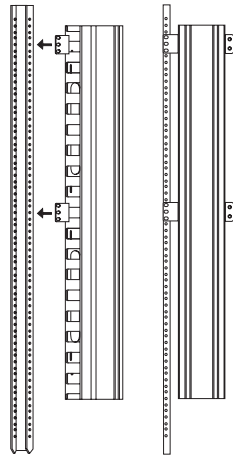

FIGURE 1
1. Align the channel mounting brackets with the equipment rack (Figure 1).